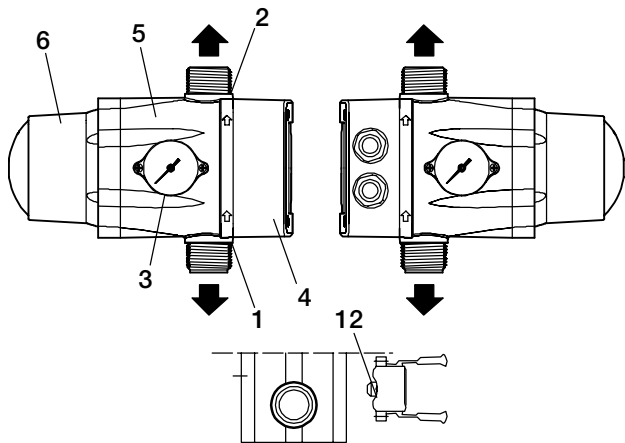

Fig. 1
4.1 Description of the Device (Fig. 1 & 2)